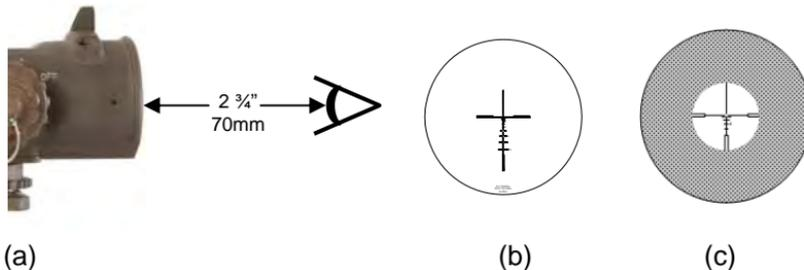

Figure 2-2: Proper Eye Relief
- Slide the sight along the rail until the correct eye relief is achieved for the user's natural head position and a full field of view is visible through the sight. Approximate eye relief is 70mm (2.75"). The field of view tunnel effect should be minimized when the eye relief is adjusted properly, producing a circular and sharp image (see Figure 2-2). Note the position of the sight on the rail.